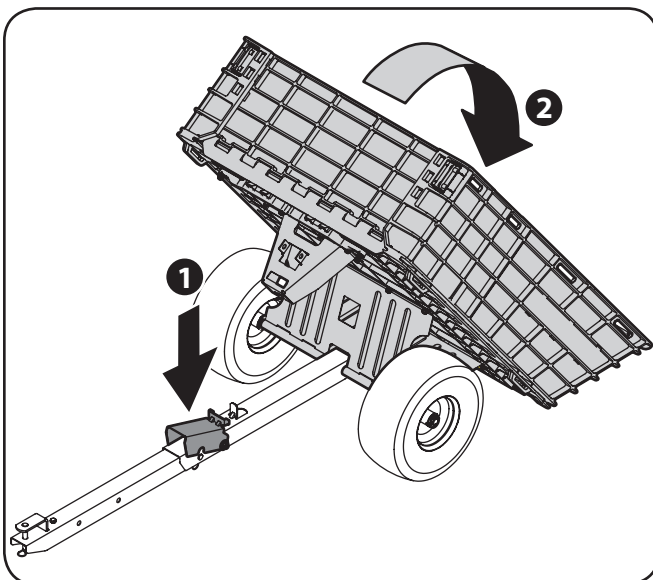

Figure 5-2
3. The contents of the hauler can be dumped by pressing down on the dump pedal on the tongue. See Figure 5-2.